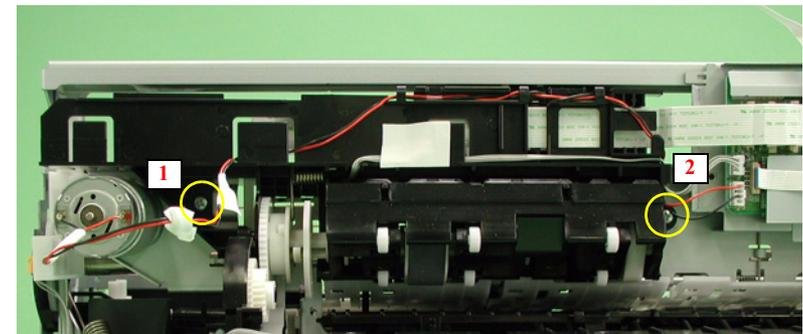

Figure 2-21. Holder, Shaft Assy. Reinstallation
- Tighten the two screws to secure the Holder, Shaft Assy. in the order shown in Figure2-21.